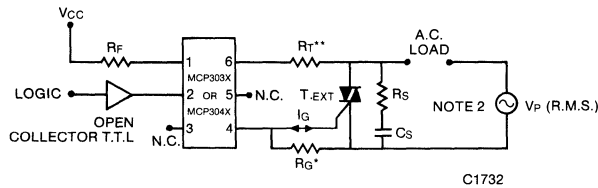

Figure 8 For Load Current  $I_L > 50\text{mA RMS}$  → Interface Via External Triac ( $T_{EXT}$ )
Typical Snubber Values — Fig. 8. Circuit Driving Inductive Load:
1. MCP304X and  $T_{EXT}$   $V_{DRM} \geq 400\text{V}$  recommended for 120 V Inductive Loads - Fig. 8